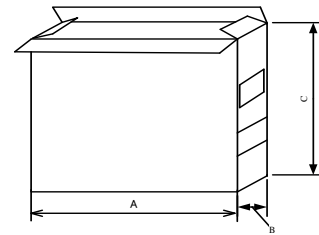

Fig.8.2.3-3
- a). Inner box please refers to Fig.8.2.3-3 and Table 8.2.3-1
- 3) Marking on outer case (see Fig.8.2.3-5~7):